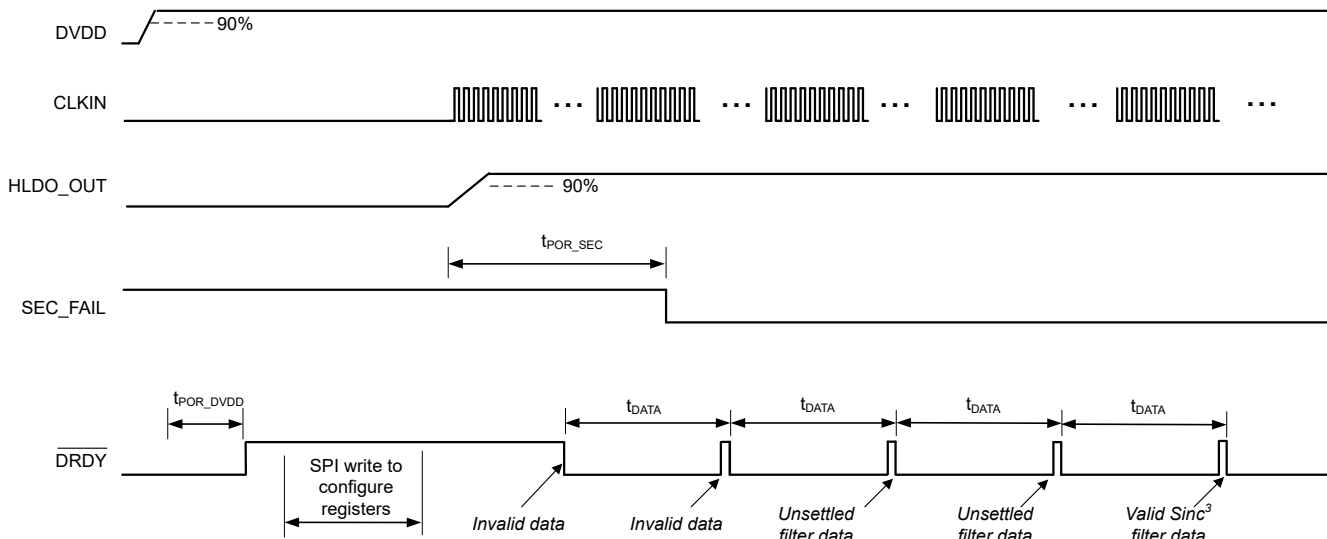
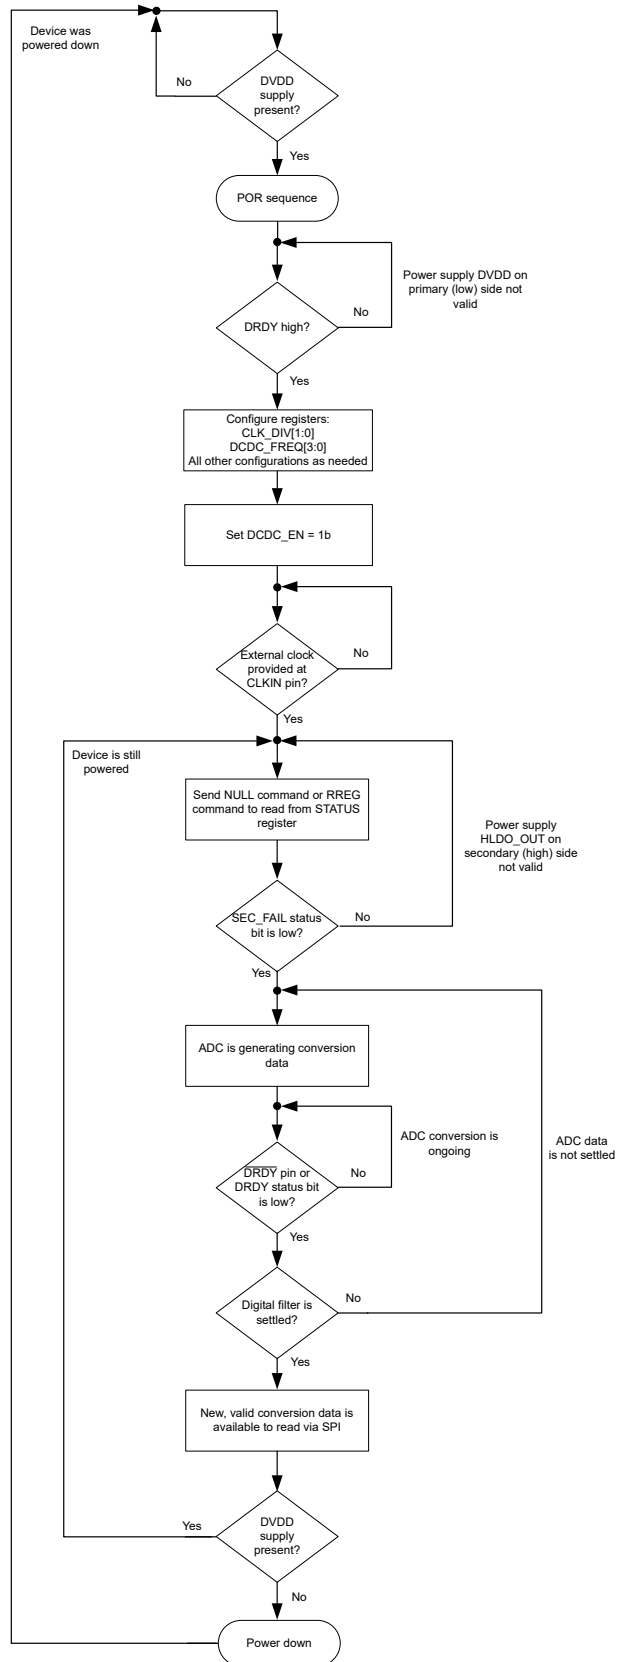

Figure 8-18. Start-Up Behavior at Power-Up and Settling Times, OSR = 1024
Figure 8-19. Flow Diagram for Start-Up Procedure at Power-Up
A recommended procedure for powering up the AMC130M03 is described in this section. Figure 8-18 depicts a timing diagram for the device behavior when this recommended sequence is used. Figure 8-19 provides a flow diagram that displays the recommended sequence in a graphical form.
- The high-to-low transition of $\overline{\text{DRDY}}$ indicates that new conversion data are available. As given in Figure 8-18, ADC data are only valid if the SEC_FAIL reads 0b during the conversion period. The first two conversion results shown in Figure 8-18, represent invalid data.
- When the ADC generates valid data, the digital filter must settle, as described in the SINC³ and SINC³ + SINC¹ Filter section. Two subsequent conversion results illustrated in Figure 8-18 are unsettled (assuming OSR equals 1024), and the last conversion result shown provides valid and settled data.
In Figure 8-18, $t_{\text{POR_SEC}}$ is the time from enabling the DC/DC converter to the first falling edge of the SEC_FAIL bit, which indicates that the secondary power supply at the HLDO_OUT pin is stable. $t_{\text{POR_DVDD}}$ is the time from DVDD supply at 90% to $\overline{\text{DRDY}}$ first rising edge.